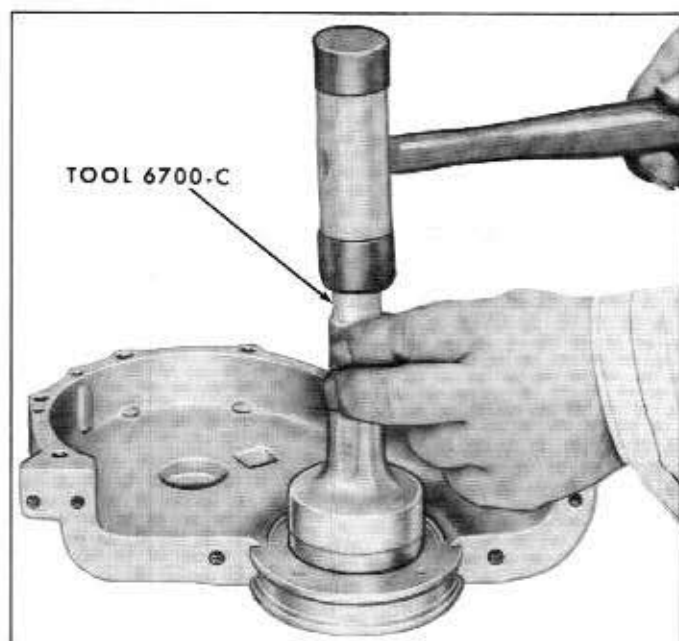

Fig. 6A-80—Crankshaft Front Oil Seal Installation—(61CM-5615)
15. Fill and bleed the cooling system. Start the engine and operate it until normal operating temperature is reached. Adjust the engine idle speed and the idle fuel mixture. Check the valve lash with the engine idling and adjust the lash if necessary, using step-type gauge. Refer to figure 6A-10.